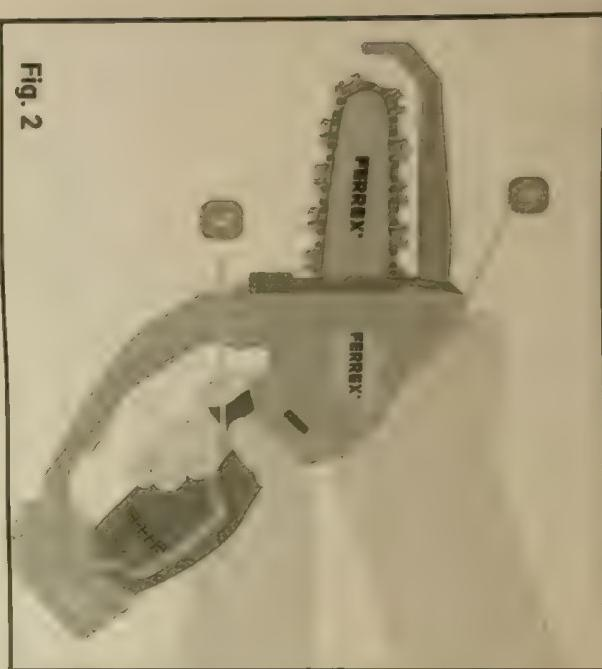

Fig. 2
Ensure you have a firm grip on the product at all times. Hold the control handle (5) securely while operating the product. If needed, place your other hand on the rear handgrip (6) as an auxiliary handle to maintain a comfortable and balanced posture (Fig 2).|